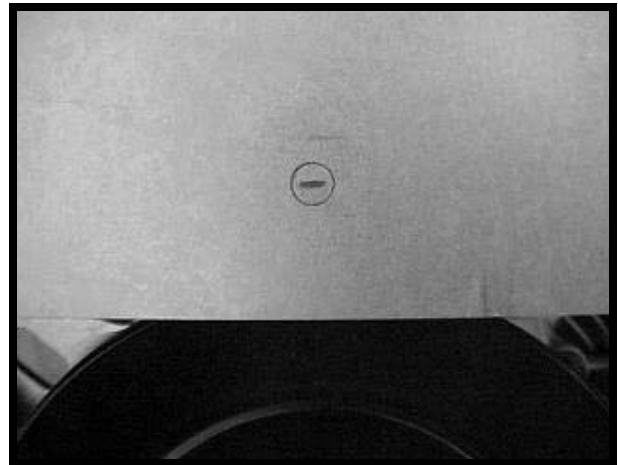

FIGURE 2
3. Hold the new extended muffler shield onto the existing muffler shield. Line the reference marks up in the center of the holes. Using a pencil draw a circle using the hole as a guide on all three holes. (Figure 2).